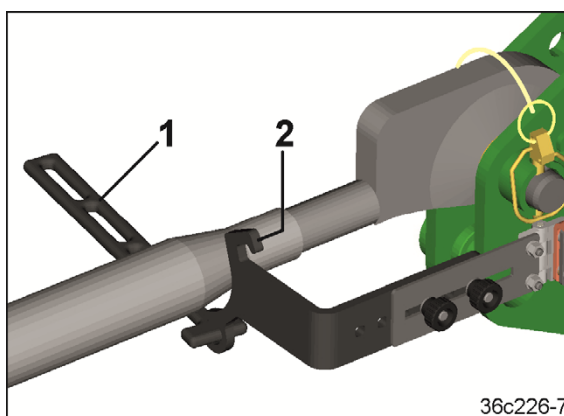

Fig. 102
4. Hook the tensioning element (Fig. 102/1) onto the top link bracket (Fig. 102/2).